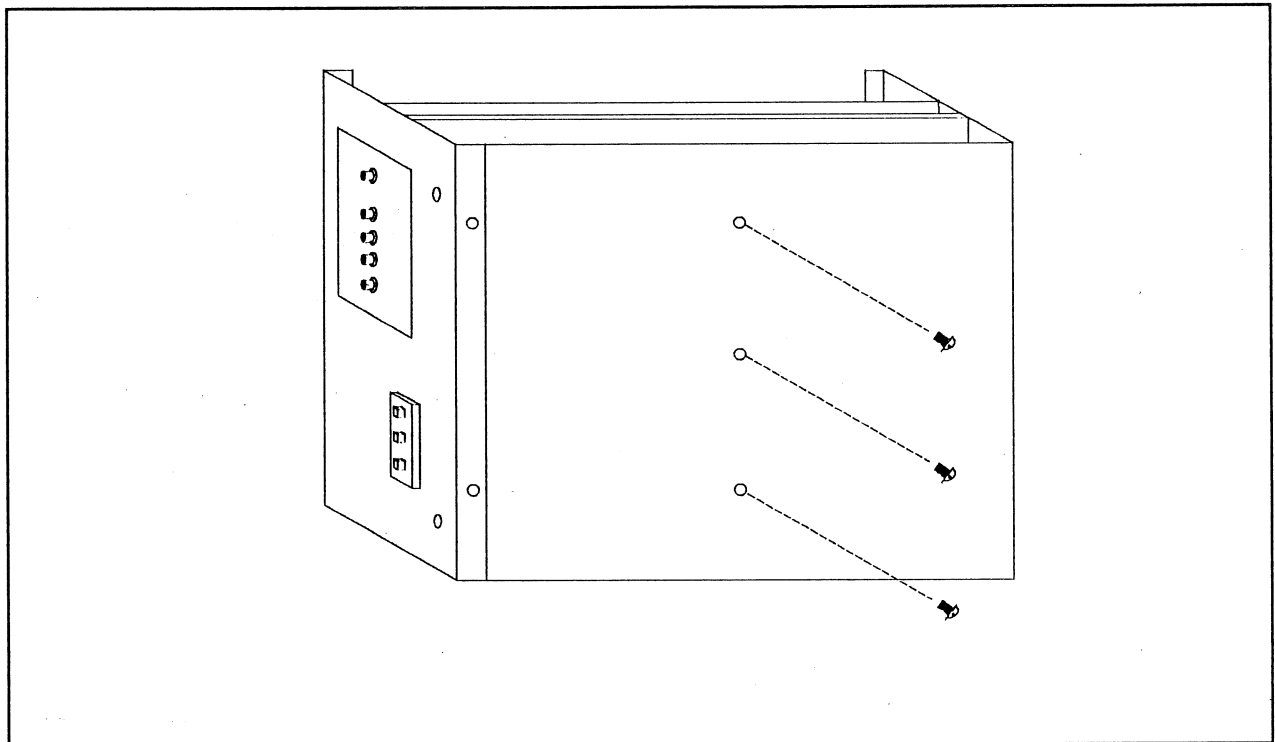

Figure 2-6. Removing Three Screws from the Bottom
- 4 Remove the three stiffener screws from the bottom. See Figure 2-6.